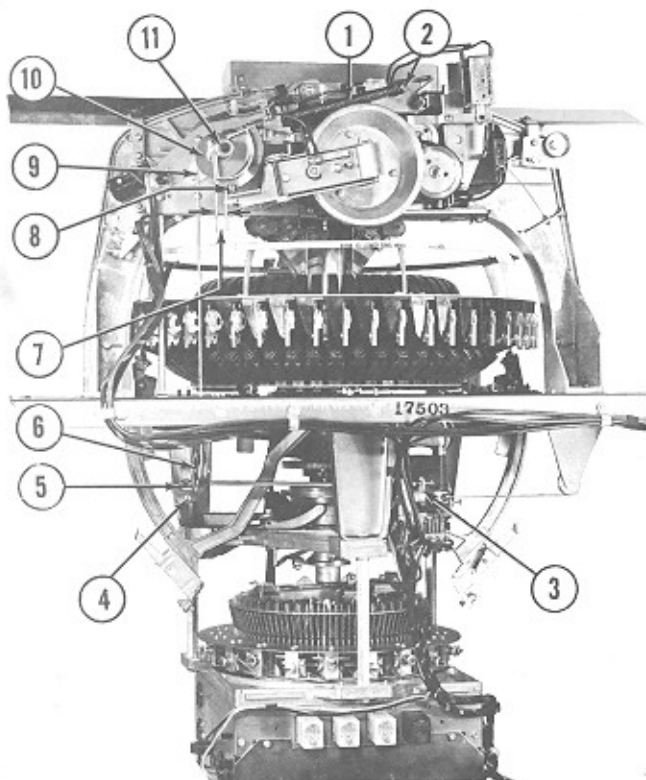
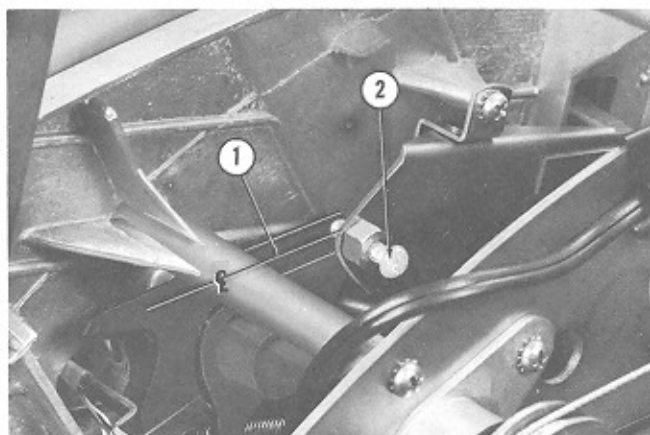

FIG. 67. TURNTABLE ACTUATING CABLE ADJUSTMENT
FIG. 68. TURNTABLE ACTUATING CABLE ADJUSTMENT
Adjustment of the Tone Arm and Turntable Release Cable (Fig. 67, Item 9) should be made with the changer mechanism in its normal rest position. The Adjusting Screw (Item 4) positions the Slide Pin (Item 5) to which the Release Cable is anchored. It should be adjusted so that the Dimension (Item 7) from the edge of the Turntable Release Cam (Item 11) to the side of the Roller (Item 8) on the cam lever assembly is 3/8". Check this adjustment by selecting any record and while in play position the Nylon Adjusting Screw (Fig. 68, Item 2) should rest approximately centered on the flat portion of the Tone Arm Release Cam as indicated at Item 1. The 3/8" dimension may be varied to provide centering of the Nylon Screw.
(2) The new Cable (Item 2) should pass through the hole in the Pulley (Item 3) leaving the pre-formed Loop (Item 1) to the left as viewed from the rear of the phonograph.
(3) Slide the Cable Clamp (Item 4) on the right hand end of the cable and form a loop three quarters of an inch long. Secure with the Cable Clamp (Item 4).
(4) Adjust the Cable through the pulley to the dimension shown at (Items 6 and 7) and tighten the Set Screw (Item 5).
(5) The left hand of the cable passes through the chassis mounting plate, around the Idler Pulley (Fig. 67, Item 6) and anchors to the Slide Pin (Item 5).
(6) The right hand end of the cable should wrap once around the Drive Pulley (Item 10) and hook to the Spring (Item 1) which is anchored to the Spring Pin (Item 2). When correctly installed, the turntable release lever roller should be on the forward track of the Turntable Release Cam (Fig. 67, Item 11) and the Roller (Item 8) of the Cam Lever Assembly should be on the rear track of the Turntable Release Cam.
(7) Adjust the cable with the Screw (Fig. 67, Item 4) as described in Paragraph z. of Section 4 on Page 30. Check the phonograph for correct mechanical operation by playing several selections.